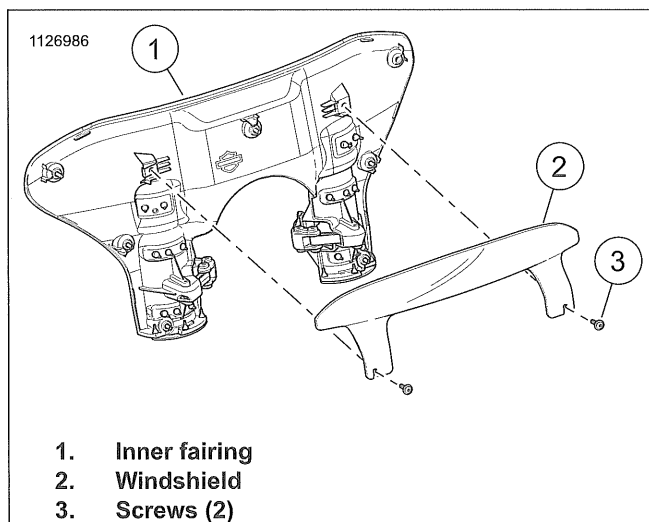
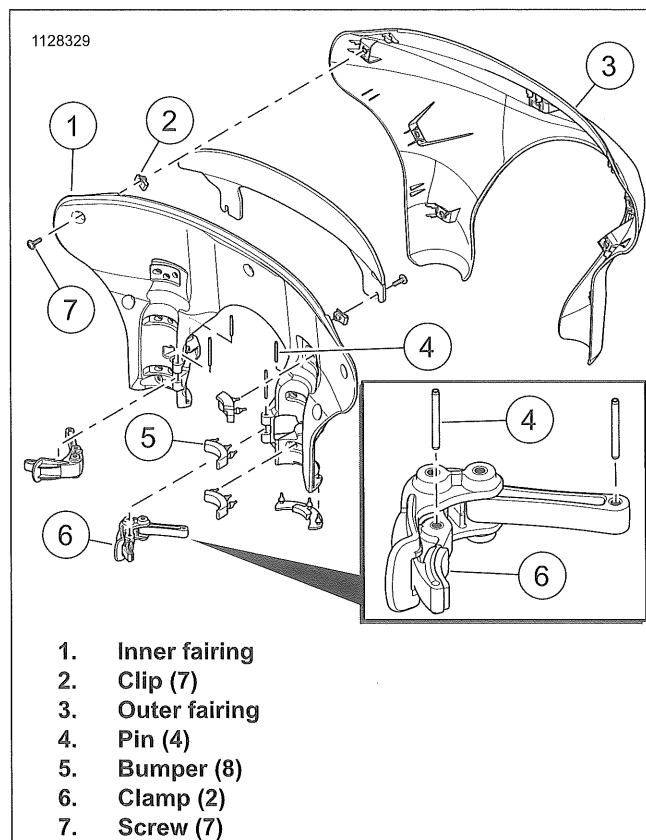
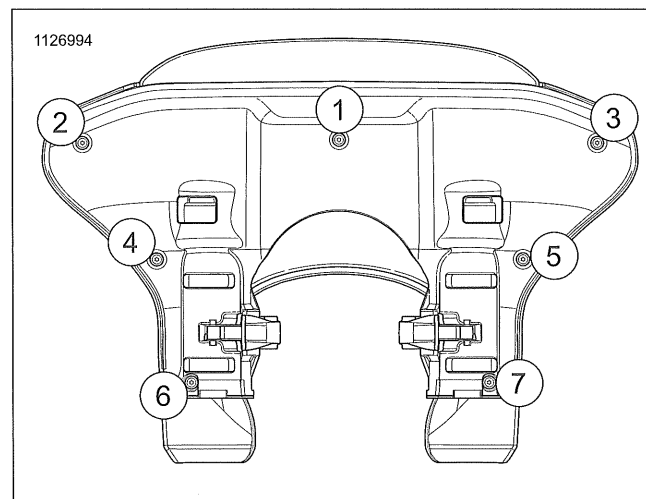

Figure 3-108. Quick Disconnect Fairing Windshield
Figure 3-109. Quick Disconnect Fairing
Figure 3-110. Torque Sequence
- 1. See Figure 3-109. Remove inner fairing.
- b. Remove screws (7).
- c. Separate inner fairing (1) from outer fairing (3).
- d. Remove clips (2) if needed.
- a. Remove pins (4).
- b. Remove clamps (6).
- 3. See Figure 3-108. Remove windshield.
- 1. See Figure 3-108. Install windshield.
- a. Slide windshield (2) onto screws (3).
2. See Figure 3-109. Install clamps.
- a. Place clamps (6) in position on inner fairing (1).
- b. Install pins (4) through holes on inner fairing and through clamps until flush.
- a. Place inner fairing (1) and outer fairing (3) together.
- b. Install screws (7).
- c. See Figure 3-110. Tighten screws in sequence shown.